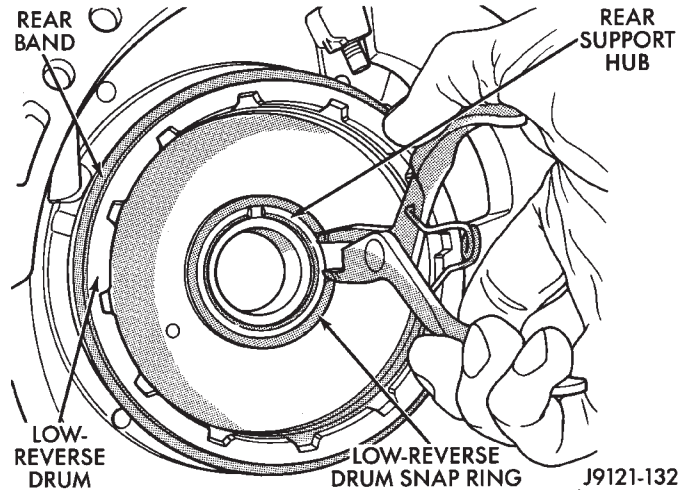

Fig. 138 Installing Low-Reverse Drum Snap Ring
(4) Align support with punch marks made during disassembly.
(5) Install and tighten rear support bolts to 17 N·m (150 in. lbs.) torque.
(6) Install snap ring that retains low-reverse drum to hub of rear support (Fig. 138).